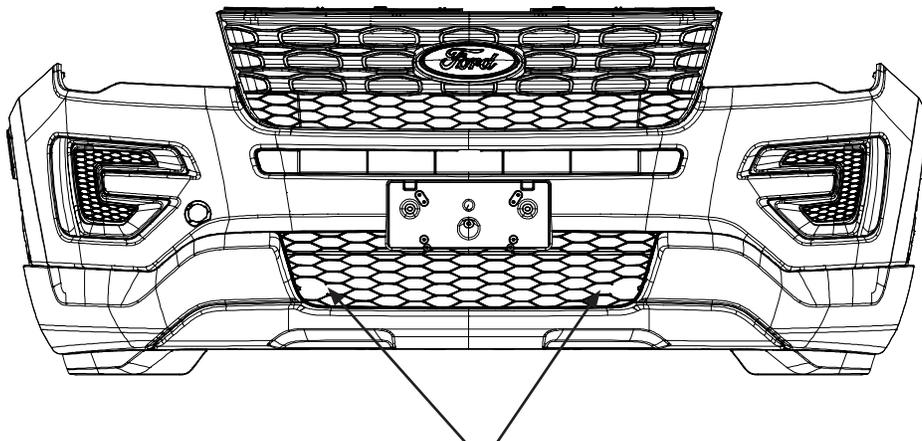

Figure 3.
F. Cut and remove lower grille trim from both ends so the lower mounting brackets are able to protrude through. See figure 3.